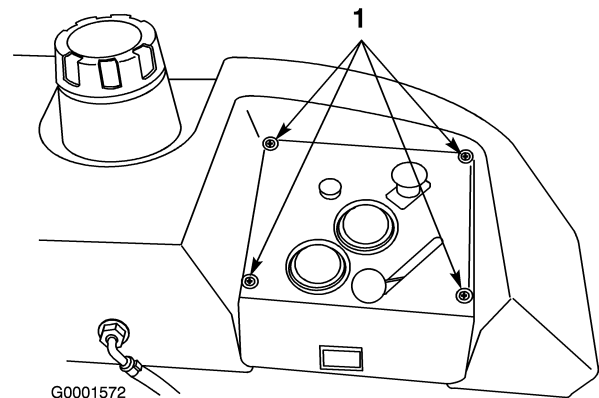

Figure 2
2. Remove the 4 screws (Figure 2) that hold the control panel in place.